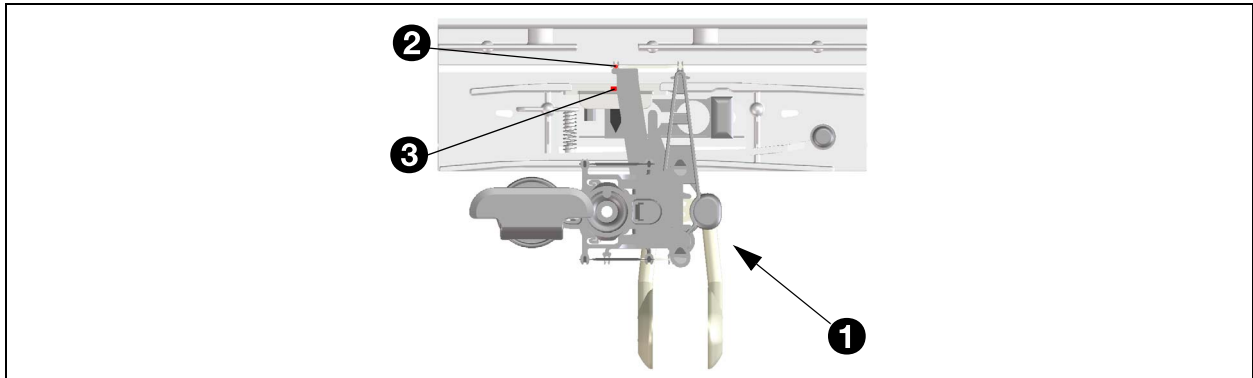
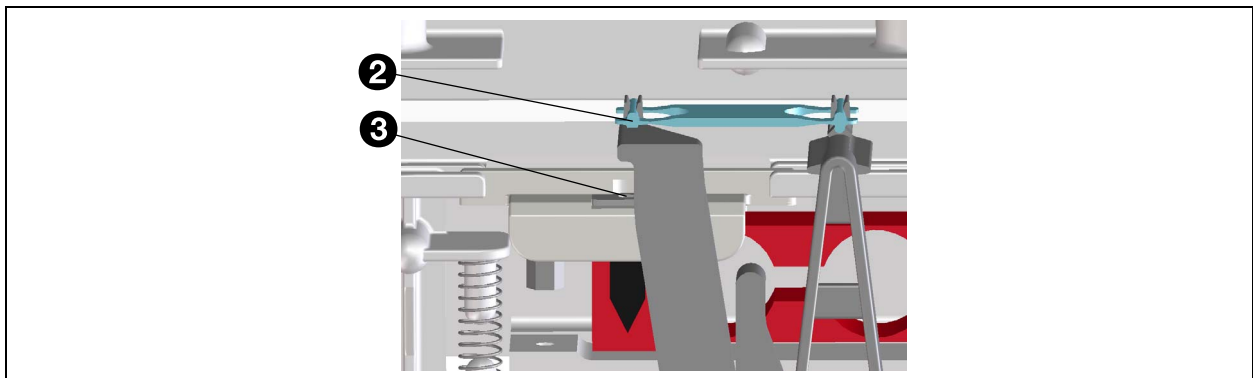

Fig. 123 - 'Loadcell carrier'
Fig. 124 - Detail of position of loadcell carrier
1. Place the loadcell carrier (1) with the first confirmation point (2) of the white line above the loadcell (3). See fig. 123 and the detailed illustration in fig. 124.